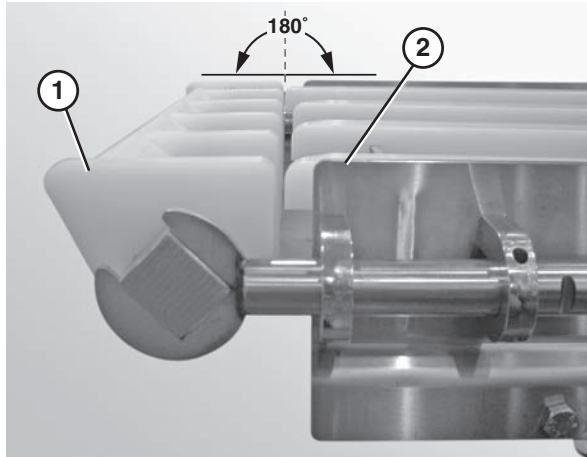

Figure 26
- Ensure that the nose bar pucks (**Figure 26, item 1**) are in line with the conveyor frame (**Figure 26, item 2**).